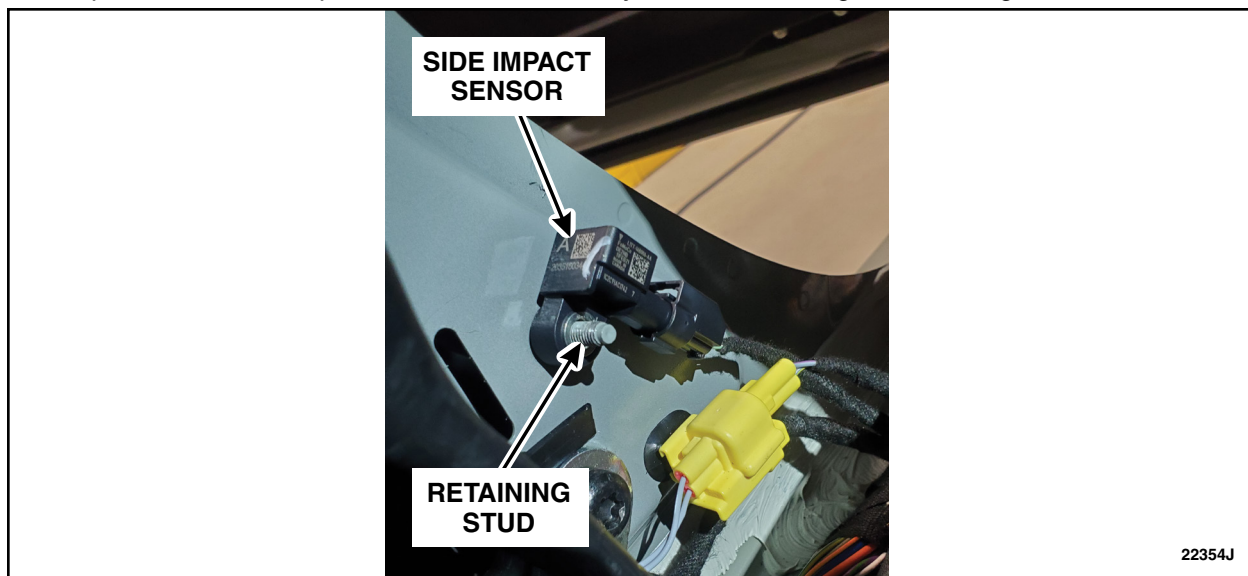

FIGURE 9
20. Reposition the side impact sensor onto the newly installed retaining stud. See Figure 9.